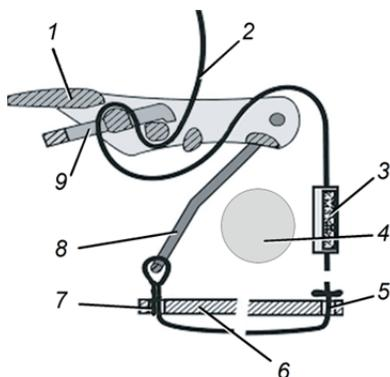

Fig. 42 Long cylinder strap
- (1) Thread the cylinder strap (→ Fig. 42) firstly through the slot in the back plate (on the right hand side of the equipment carrier), then through the left hand slot in the back plate and then through the cylinder bracket - align the cylinder bracket vertically.
- (2) Push the Velcro strap onto the cylinder strap with the fluffy side facing outwards